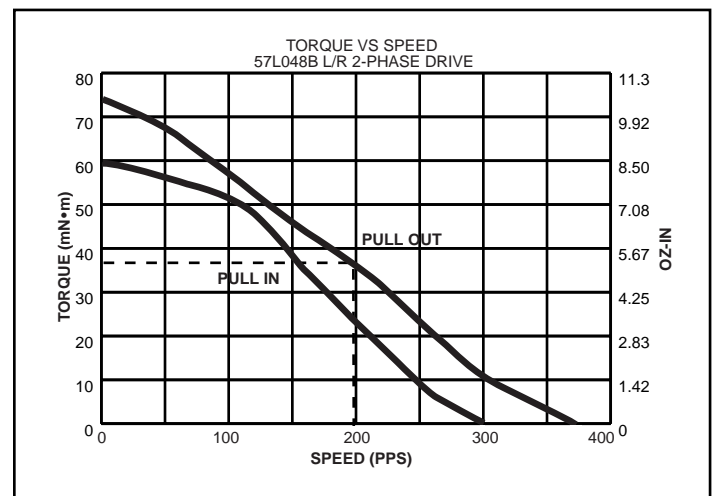

Figure 9: Torque/Speed — Friction Plus Inertia.
3. Refer to the *PULL OUT* curve Fig. 9, at speed of 200 pulses per second, where the available torque is 35 mN·m. Therefore, the 57L048B motor can be selected with a safety factor.